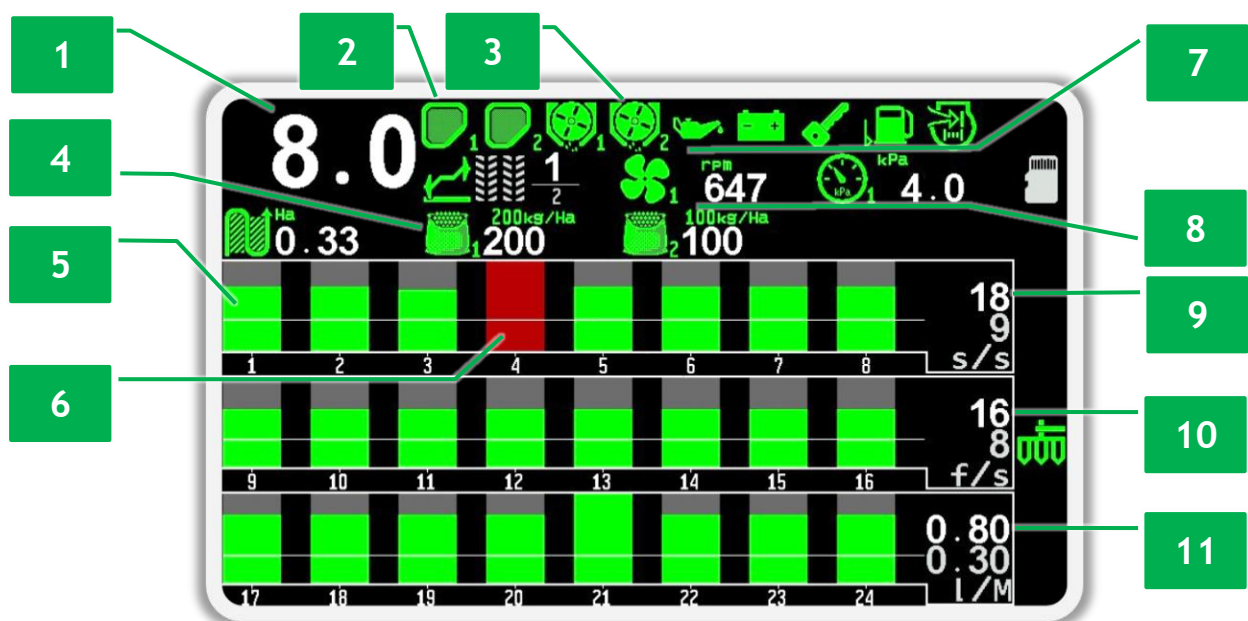

Figure 20 An example of the main screen indication
- movement speed (see Figure 20 p.1) by the speedometer in the tractor or the GPS navigator, if this is possible;
- fan speed and pressure readings must be within the range specified in the settings (see Figure 20 p.8);
- actual rate of application of products by central seed metering devices by mass, if this feature is enabled (see Figure 20 p.4);
- the actual rate of application of seeds, dry and liquid fertilizers relative to target rate or the minimum permissible level of actual rate (see Figure 20 p.9, p.10, p.11);
- absence of alarm indication on other sensors (see Figure 20 p.2, p.3, p.7).